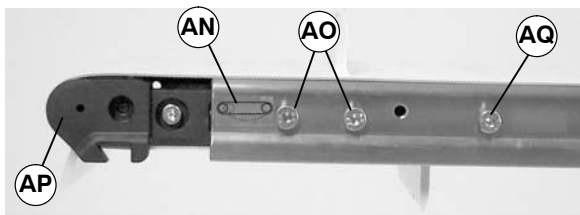

Figure 22
4. Retract idler spindle assembly (AP of Figure 22) by pushing in on it or by turning M6 pinion screw (AQ of Figures 22 and 23) clockwise.
4. Retract idler spindle assembly (AP of Figure 22) by pushing it in or by turning M6 pinion screw (AQ of Figures 22 and 23) clockwise.
5. Retract idler spindle assembly (AP of Figure 22) by pushing it in or by turning M6 pinion screw (AQ of Figures 22 and 23) clockwise.